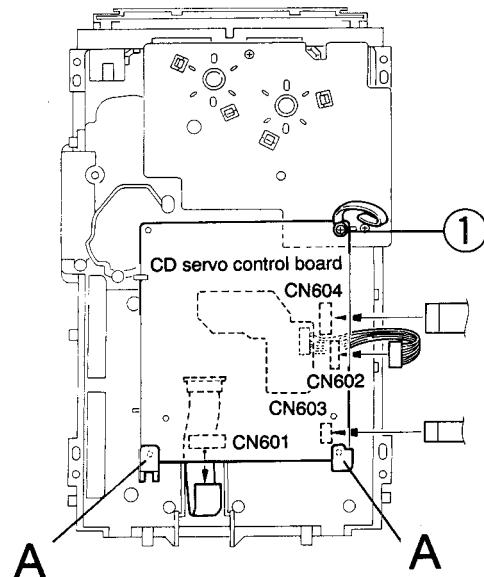

Fig.5-35
■ Removing the CD Servo control board (See Fig. 5-35).
3. From bottom side the CD Traverse mechanism assembly, remove the one screw ① retaining the CD Servo control board.